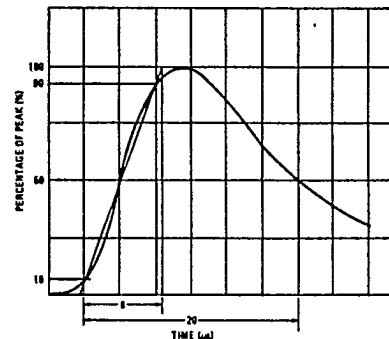

Fig. 2 - Test Current Waveform
1. I _{peak} Maximum allowable current	V ₁ is measured, the rated current value with the waveform of Figure 2 is applied twice in the same direction at a 2 min. interval. V ₁ is measured 30 min. later.
2. Surge life expectancy	V ₁ is measured, the tabulated current with the waveform of Figure 2 is applied 10,000 times in the same direction. V ₁ is measured 30 min. later.